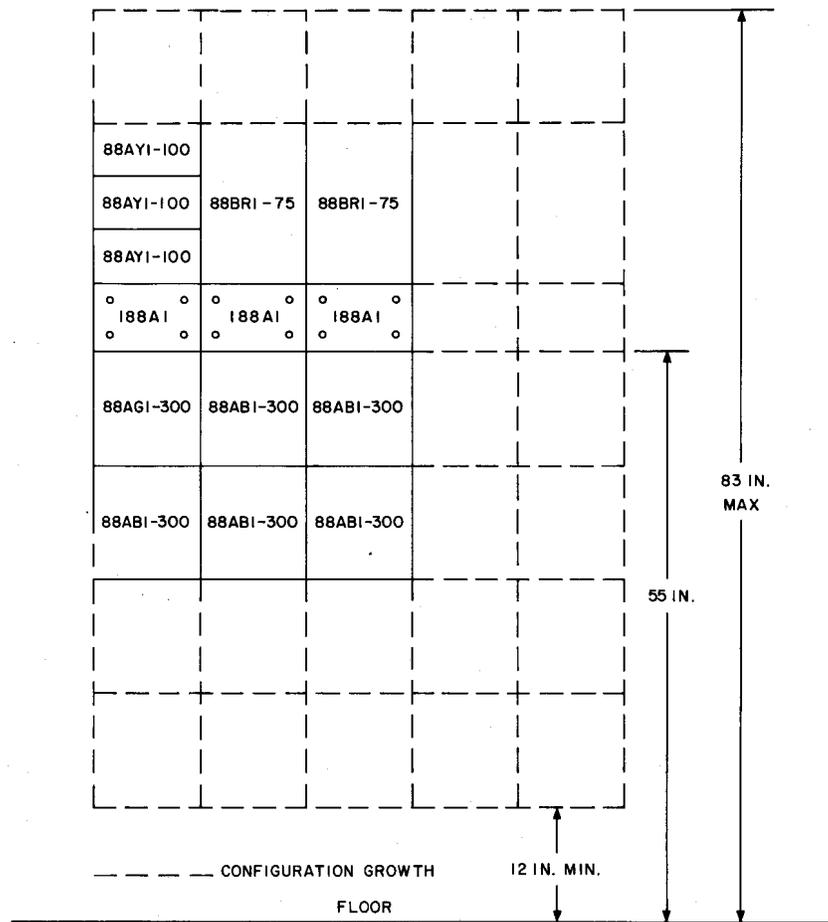

Fig. 6—Basic Layout of Wiring Blocks in Riser Terminal
4.01 The **green** wiring block is used to terminate **outside plant lines** and the **blue** wiring block to terminate **station cables**. The basic layout (Fig. 6) and construction of a riser terminal is as follows: